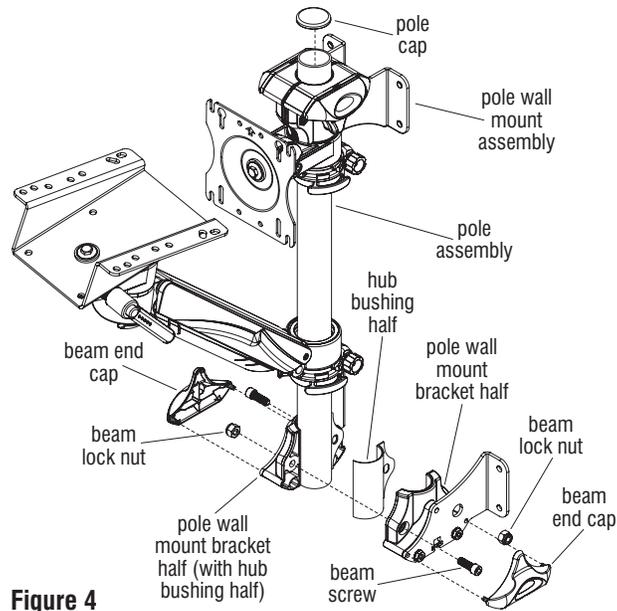

Figure 4
7. Making sure bushing tabs DO NOT face the user side, connect a hub bushing half to both wall mount bracket halves. Insert beam screw and beam lock nut into each pole wall mount bracket half to connect bracket halves around the pole assembly, one at the top of the pole and the other at the base. Tighten beam screws to secure each pole wall mount assembly in place (Figure 4).